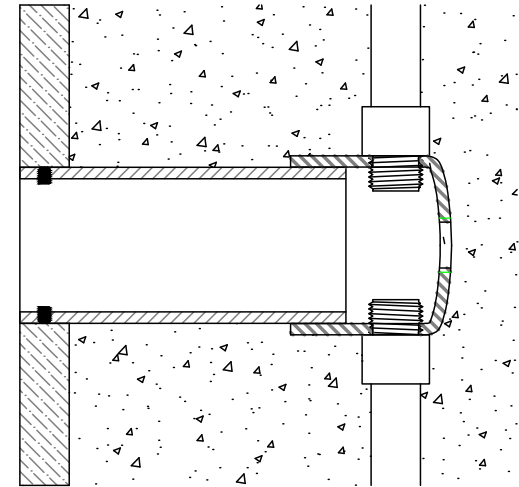

Figure 2c: SURFACE FINISH MATERIAL BETWEEN 1" AND 2-1/2" THICK
7. Test fit the PVC Pipe and Cap. There must be a minimum 1" gap between the back of the Cap and the rear form member (Figure 2c). If the Pipe is too long to leave the recommended 1" gap between it and the front form, then the Pipe must be cut to fit. Only remove material from the end WITHOUT the taps.
5. Test fit the PVC Pipe and Cap. The Pipe should be tight against the inside of the form and there must be a minimum 1" gap between the back of the Cap and the rear form member (Figure 2c). If the Pipe is too long to leave at least 1" gap between the back of the Cap and the opposite form board, then the Pipe must be cut to fit. Only remove material from the end WITHOUT the taps.
### OPTION C: For when the surface finish material is between 1" and 2-½" (e.g. brick or stone facing). See Figure 2c.
2. Test fit the PVC Pipe and Cap. The Pipe should be inserted so it is flush with the outside of the form and there must be a minimum 1" gap between the back of the Cap and the back form member (Figure 2c). If the Pipe is too long to leave at least 1" gap between the back of the Cap and the rear form member, then the Pipe must be cut to fit. Only remove material from the end WITHOUT the taps.